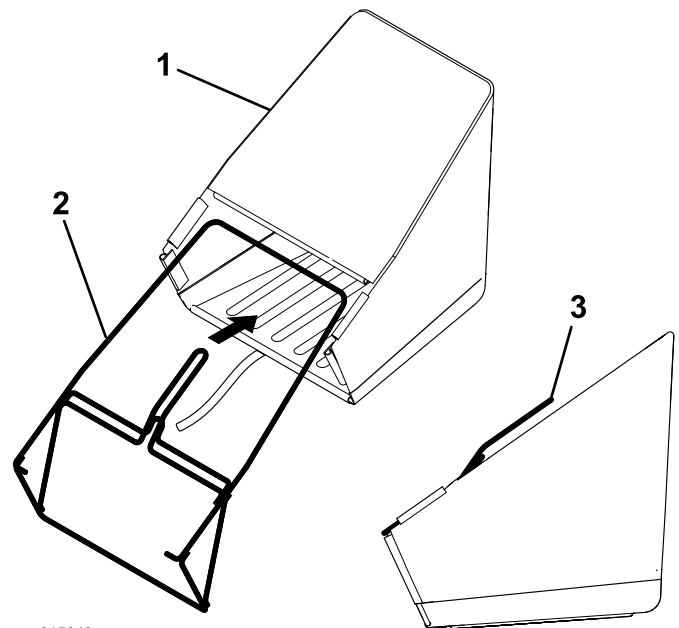

Figure 3
1. Slide the wire bag frame into the grass bag, ensuring that the handle is above the fabric (Figure 3).